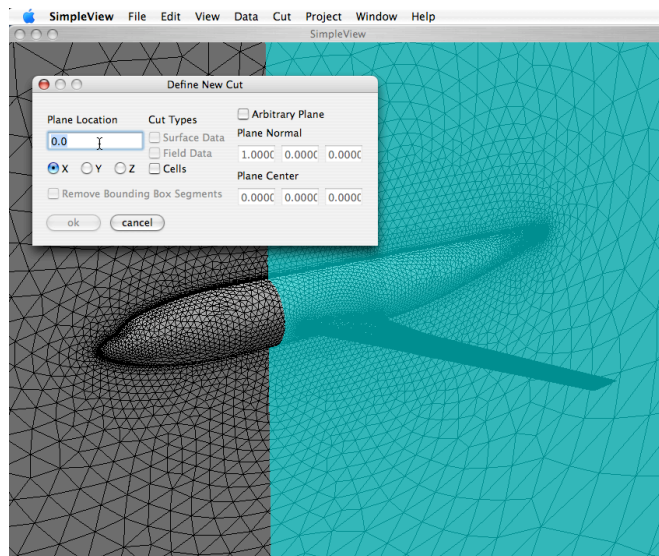

Figure 2.5.1 The Data Cut Pop-up Menu : specifying the cutting plane location
2. Select the “Define New Cut” option from the “Cut” panel. The “Data Cut Pop-up”/”Define New Cut” window will appear, and, by default, SimpleView will display a transparent blue plane at the  $x=0$  location, as shown in Figure 2.5.1.
To extract the flow quantities, you begin by defining a plane in the same way that you would do so in order to perform a volume grid cut (as shown in Figure 2.5.1)—by selecting the “Define New